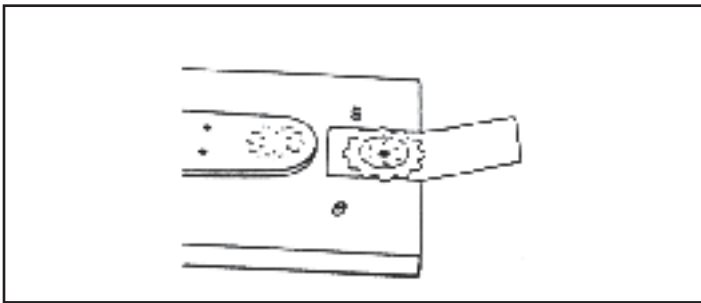

Figure 26. Preparing New Nose Sprocket
3. Remove the new nose sprocket package's clips and fold back the top portion of the insertion card being careful not to remove or disturb the components. See Figure 26.